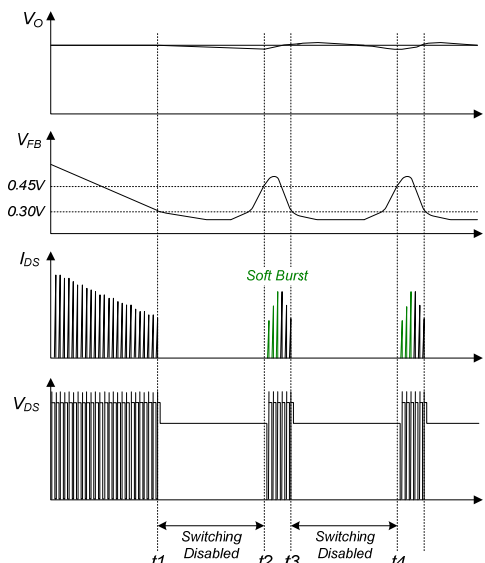

Figure 23. Burst-Mode Operation
5. Soft Burst-Mode Operation: To minimize power dissipation in Standby Mode, the FSL176MRT enters Burst-Mode operation. As the load decreases, the feedback voltage decreases. The device automatically enters Burst Mode when the feedback voltage drops below V_{BURL} (300mV), as shown in Figure 23. At this point, switching stops and the output voltages start to drop at a rate dependent on standby current load. This causes the feedback voltage to rise. Once it passes V_{BURH} (450mV), switching resumes. The feedback voltage then falls and the process repeats. Burst Mode alternately enables and disables switching of the SenseFET, reducing switching loss in Standby Mode.